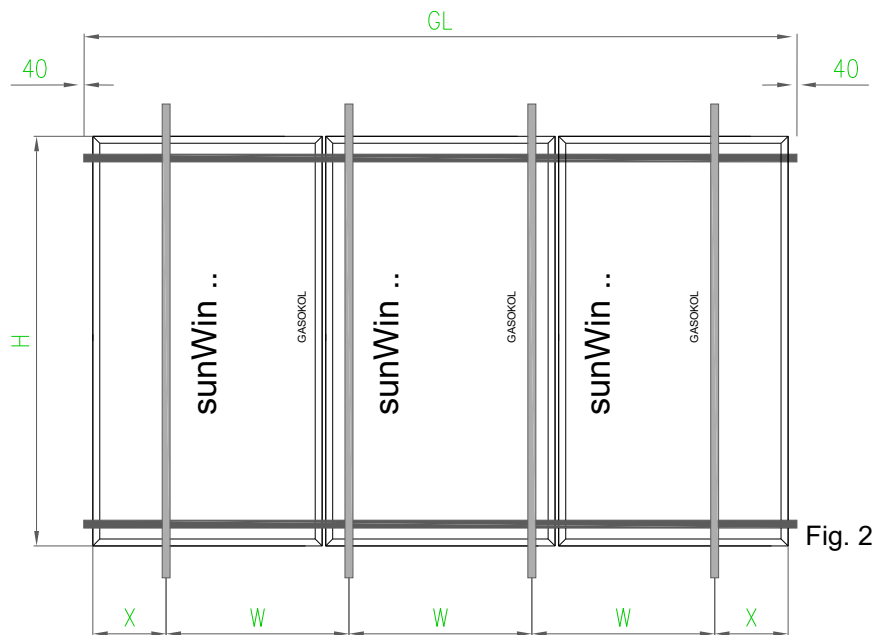

Fig. 2
1. Determine the position of each single base boards (1) on the roof – considering the given values in the table below. As a guideline the border distance **X** between the “collector edge” and the first or last supporting frame should be in the range of 350 mm (see Fig. 2). Remove the gravel ballasting completely in this area without damaging the roof cladding.